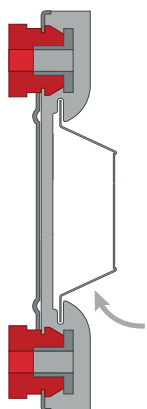

Figure 1
- ❑ Quickest installation is often achieved by pinching the Isobar bridge slightly at it's end, so that the Isoblocks can slide easily into position (figure 1).